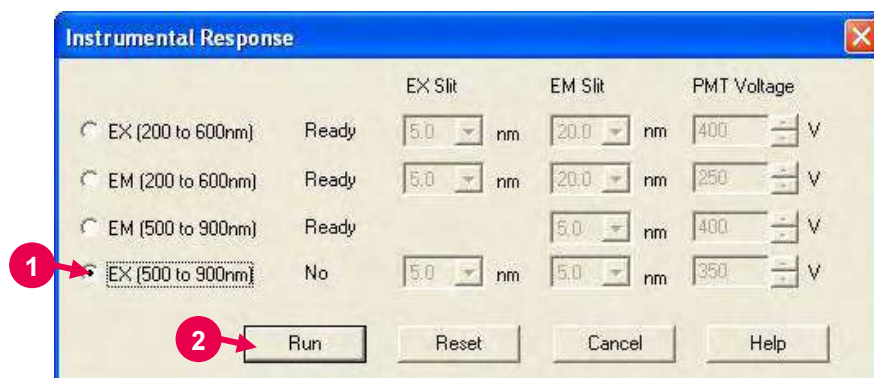

Fig. F-13
- (8) Execute the Instrumental Response command from the Utility menu. The Instrumental Response dialog box will open as shown in Fig. F-13.
Select "EX [500 to 900 nm]." (Refer to ① in Fig. F-13.)
- (9) Click the **Run** button. (Refer to ② in Fig. F-13.) A message box “Set diffuser to cell holder.” will appear. Click the **OK** button. (Refer to ③ in Fig. F-14.)